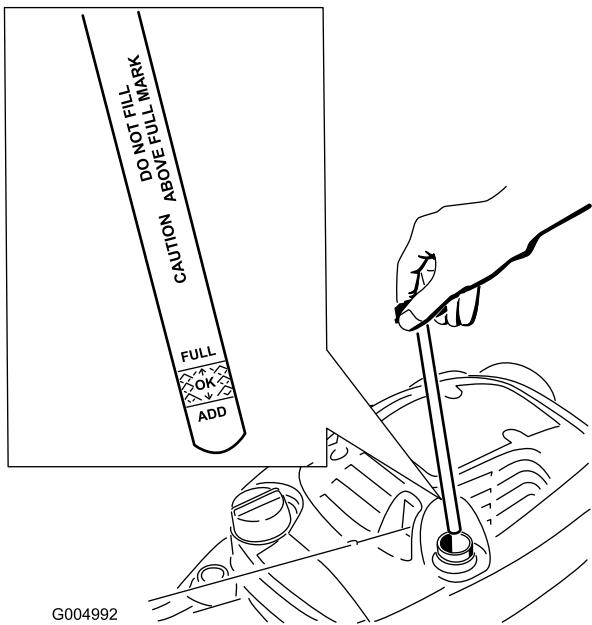

Figure 5
1. Remove the dipstick (Figure 5).
2. Slowly pour oil into the oil fill tube until the oil level reaches the **Full** line on the dipstick (Figure 5). **Do not overfill.** (Max. fill: 20 oz., type: SAE 30W detergent oil with an API service classification of SF, SG, SH, SJ, SL, or higher.)